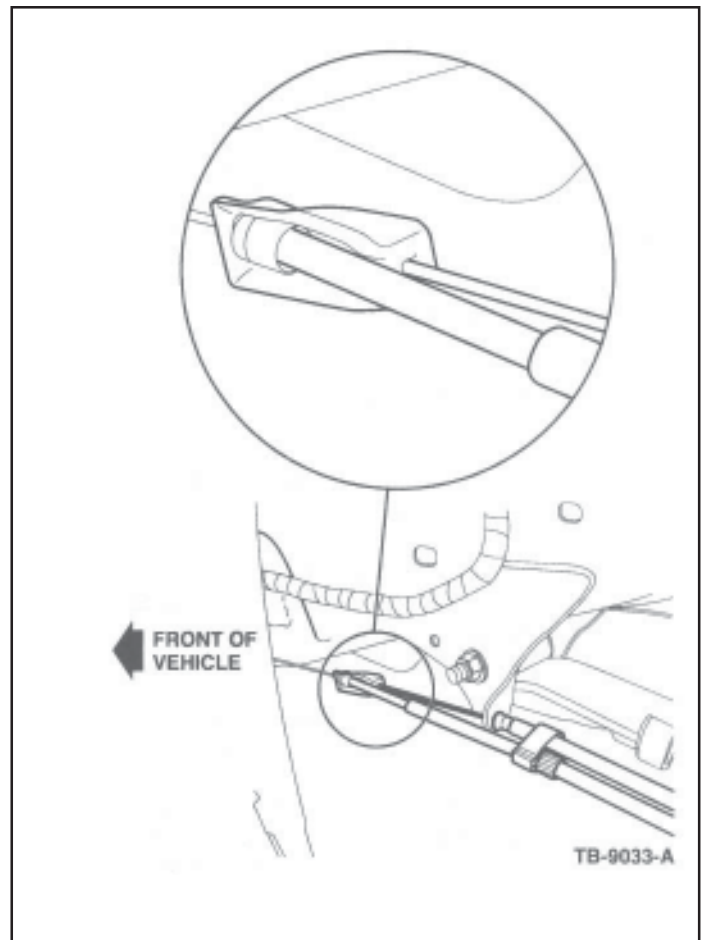

Figure 1 - (Left Hand Side) Parking Brake Cable
2. Correctly position the parking brake cable equalizer to ensure the LH and RH parking brake cables do not twist or bind during operation. (Figure 1 - LH side)